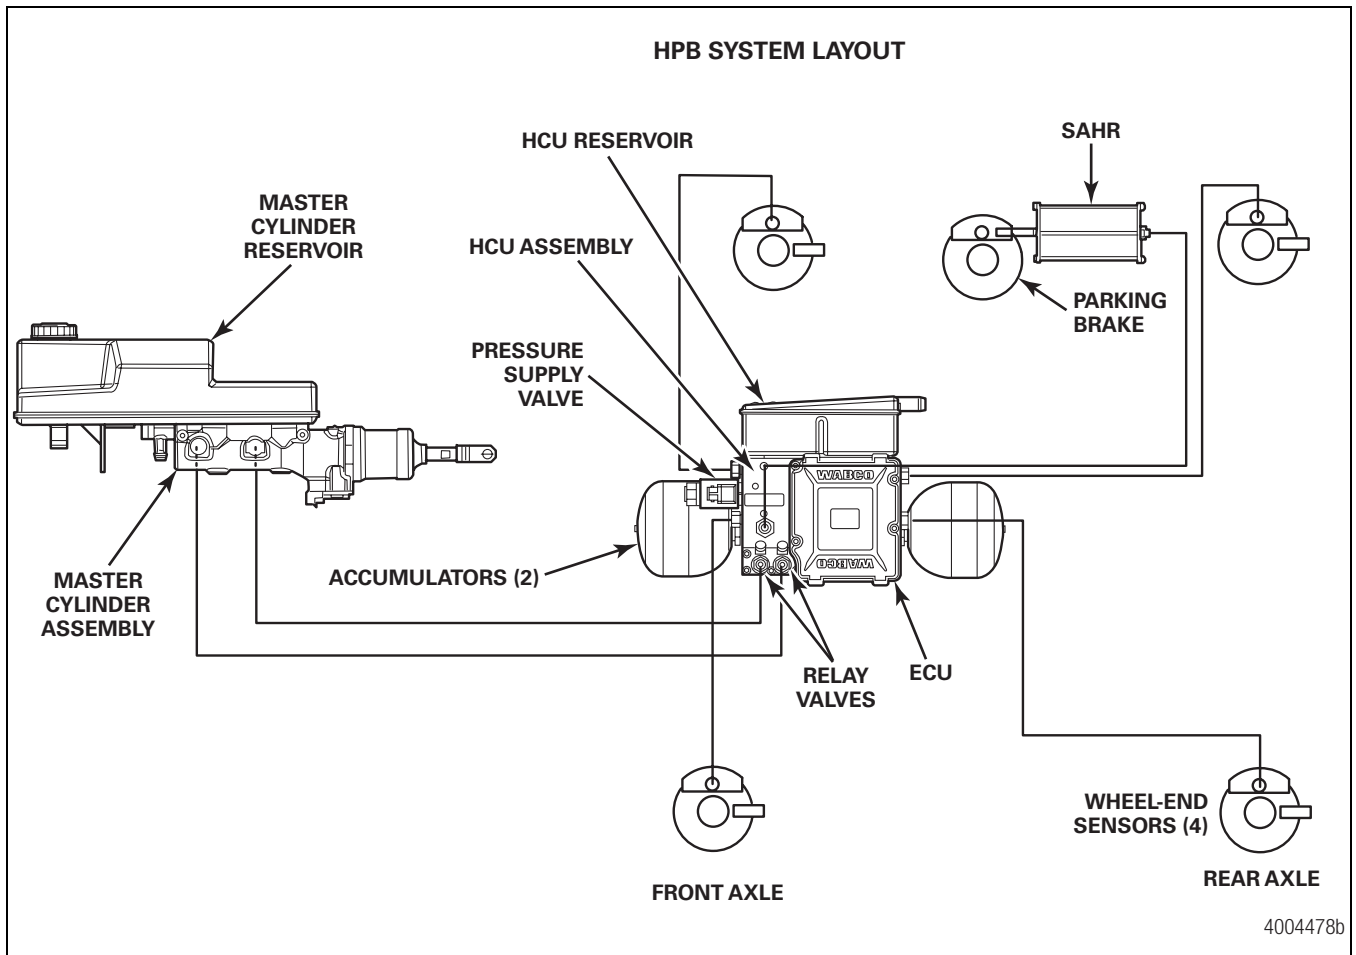

Figure 13
13. Repeat the bleed procedures for the second relay valve bleeder. Continue bleeding the system with the calipers (order right rear, left rear, right front and left front), and then the parking brake SAHR. Refer to the Maintenance Manual MM-0401 for complete bleed procedures. Figure 13.